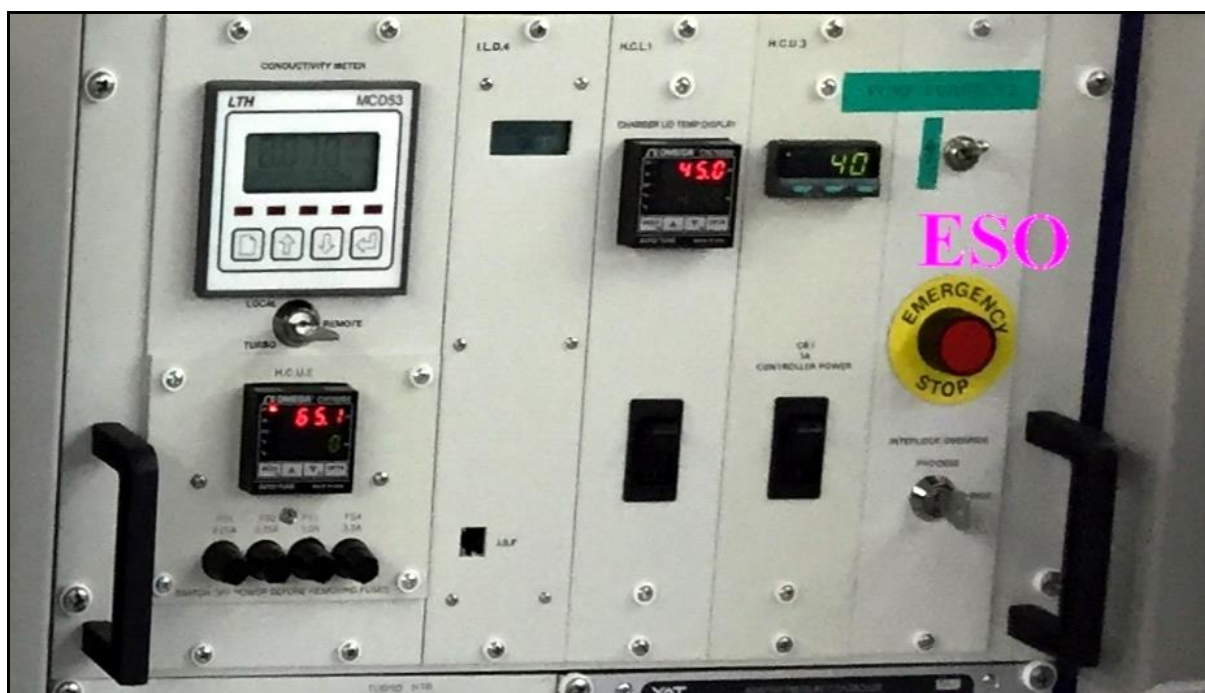

Fig 2 Emergency button (ESO)
- In emergency when using the equipment, push the red emergency button (Fig. 2) to interrupt the equipment power, and report to the NFF staffs immediately. DO NOT attempt to resume the equipment on before the problem is solved.